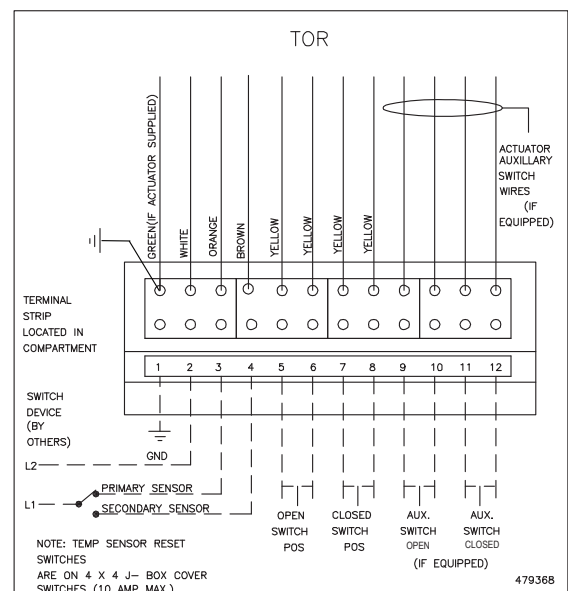

Figure 21: TOR wiring diagram
**TOR** - The TOR (temperature override device) option incorporates two thermostats with fixed settings (usually 165°F [74°C] and 350°F [177°C]). The primary sensor (the sensor with the lower temperature setting) can be bypassed by an external contact closure allowing the damper to reopen until the secondary temperature is reached (the sensor with the higher temperature setting). See **Figure 21**.
The TOR assembly also contains two single pole, single throw switch used to indicate damper blade position. The switch provides a positive open and closed signal when used in conjunction with remote indicator lights. See **Figure 21** for wiring of the TOR thermostats and indicator switches.